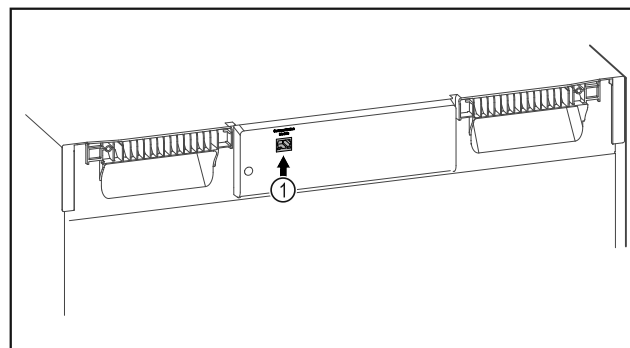

Fig. 107
- ☐ SmartModule Fig. 107 (1) is in use.